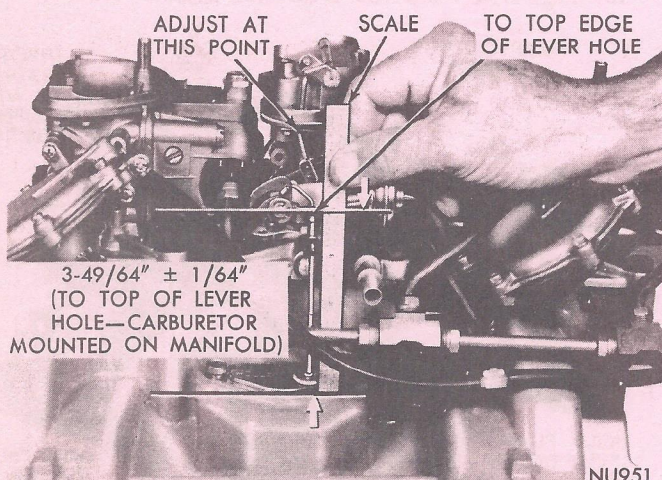

Fig. 25—Qualifying Choke Control Lever
- (1) Open the throttle to mid-position.
- (2) Close the choke valve by slight pressure on choke control lever.
(3) The top of choke rod hole in control lever should be $3-49/64" \pm 1/64$ inch above choke assembly (carburetor on engine) or $1-23/32 \pm 1/64$ inch above carburetor base (carburetor on bench) (Fig. 25).
(4) Adjust if necessary by bending choke shaft rod at point indicated.